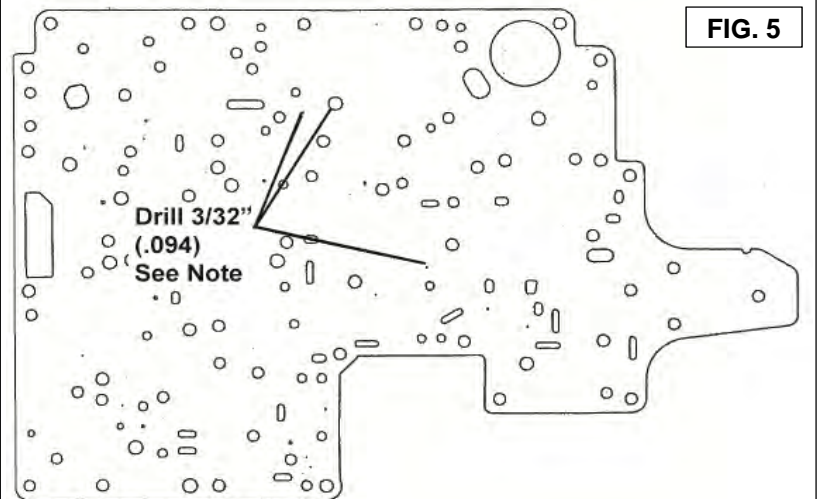

FIG. 5
8. Remove the Solenoid filter and any gasket stuck to the separator plate. Enlarge the orifices shown in Figure 5 with the supplied drill bit. Unpredictable shift characteristics and/or transmission damage can result if these orifices are drilled larger than the supplied bit. Remove any burrs from the drilled holes by rubbing a flat file across the orifices on both sides of the separator plate. Clean the plate and remove all loose metal filings.